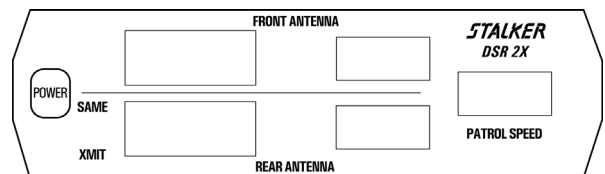

Fig. 21
**REAR SAME** - To activate the Rear Same Target Zone, press the rear antenna **SAME** key. The **STALKER DSR 2X** will beep once immediately to acknowledge that the Target Zone is activated. To confirm activation, the rear **SAME** and **XMIT** display icons will be illuminated. Fig. 21 illustrates this condition.